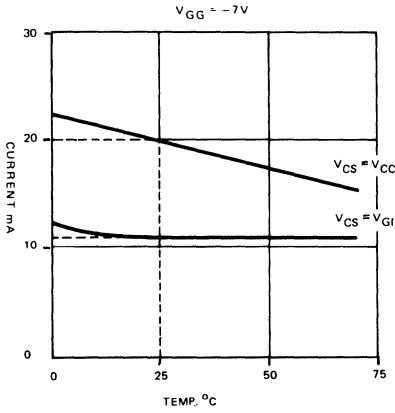

Fig.9
- See also Typical 7-Segment Output Curves, Figs. 9, 11, & 13 (-12V ±1V)